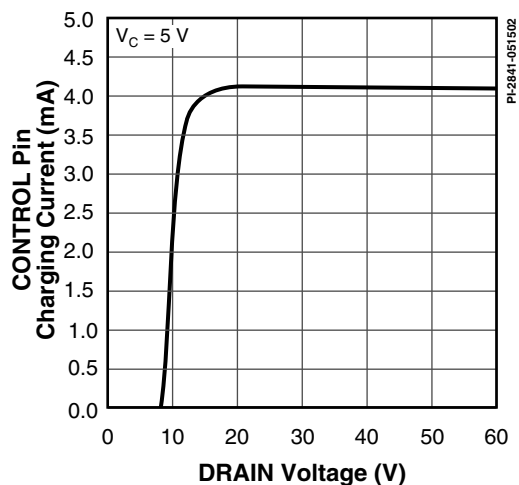

Figure 45. I_C vs. DRAIN Voltage.
- D. It is possible to start up and operate *DPA-Switch* at DRAIN voltages well below 16 V. However, the CONTROL pin charging current is reduced, which affects start-up time, auto-restart frequency, and auto-restart duty cycle. Refer to Figure 45, the characteristic graph on CONTROL pin charge current (I_C) vs. DRAIN voltage for low voltage operation characteristics.